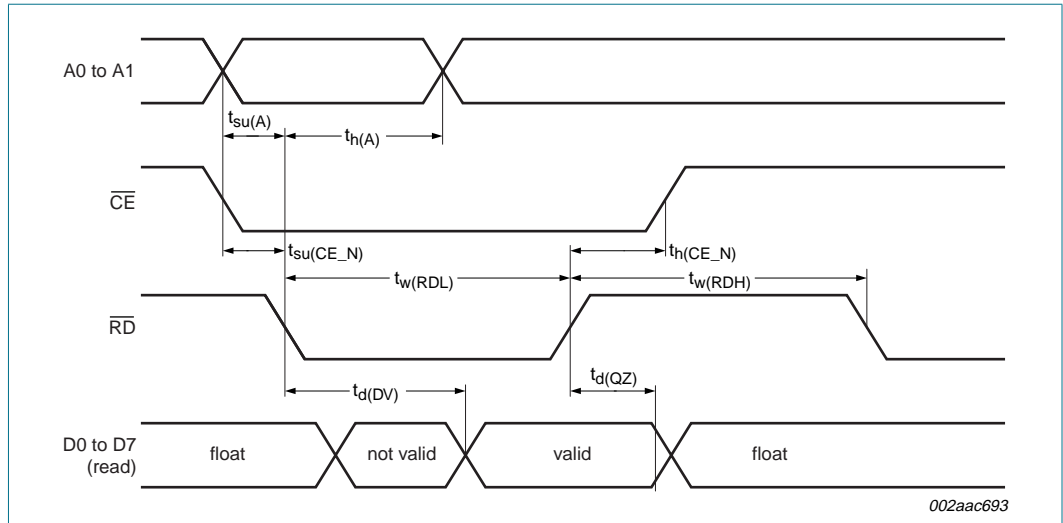

Fig 39. Bus timing (read cycle)
Bus timing (see <a href="#">Figure 39</a> and <a href="#">Figure 41</a>)
[2] All voltage measurements are referenced to ground (GND). For testing, all inputs swing between 0 V and 3.0 V with a transition time of 5 ns maximum. All time measurements are referenced at input voltages of 1.5 V and output voltages shown in Figure 39 and Figure 41.
- [2] All voltage measurements are referenced to ground (GND). For testing, all inputs swing between 0 V and 3.0 V with a transition time of 5 ns maximum. All time measurements are referenced at input voltages of 1.5 V and output voltages shown in Figure 39 and Figure 41.